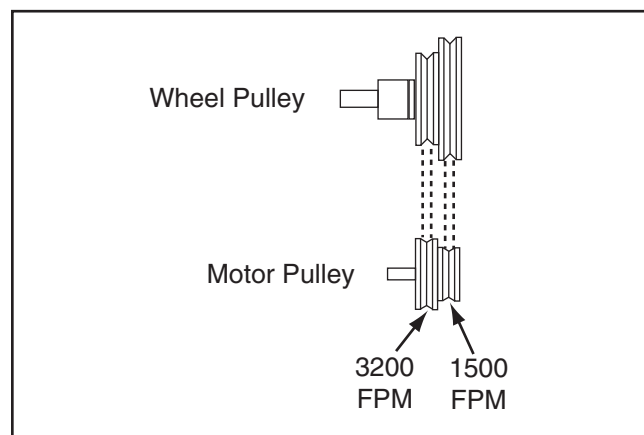

Figure 45. Drive belt position for the different speeds.
4. Position the V-belt belt on the pulleys as illustrated in **Figure 45** for the desired speed.